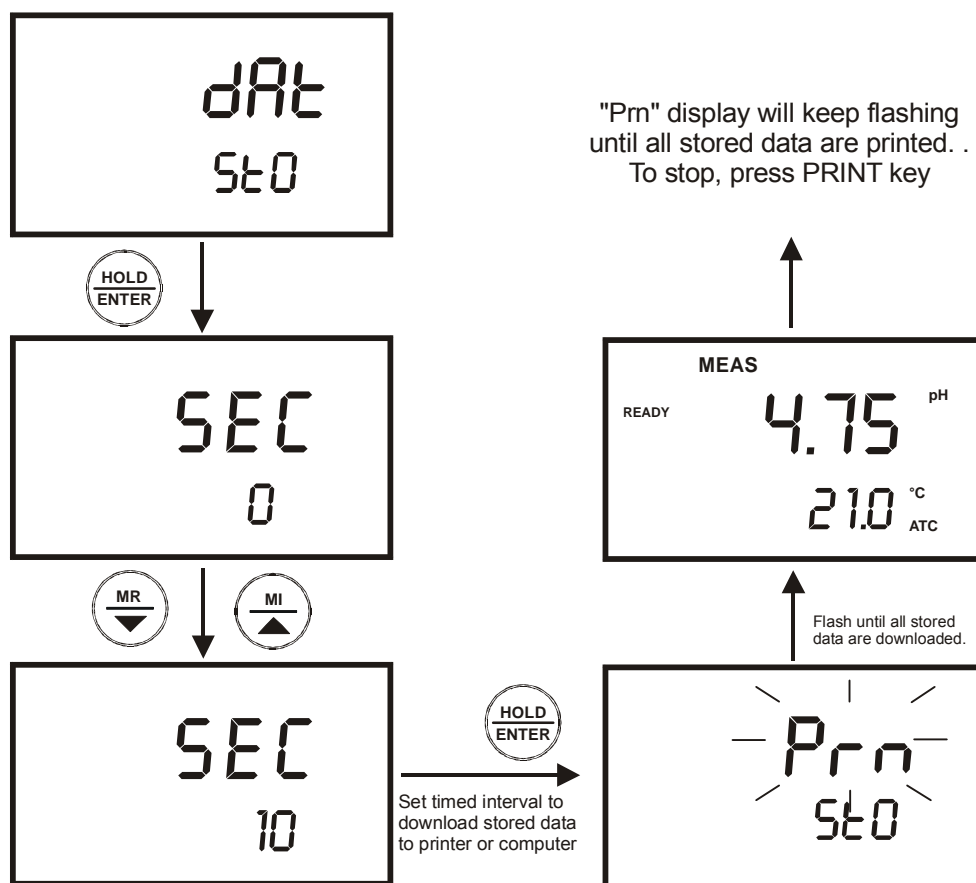

Figure 26: Print all stored data
5. To stop printing, press PRINT key and exit to measurement mode. See Figure 26.